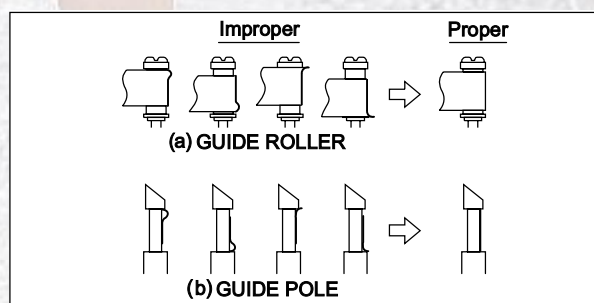
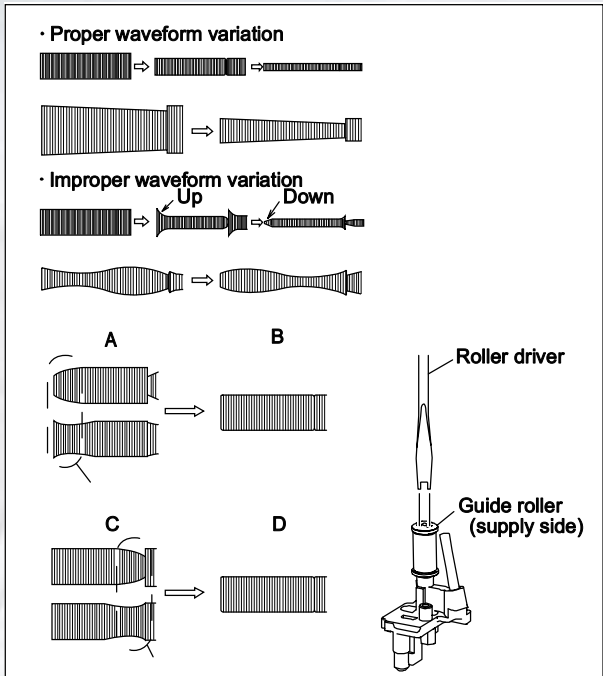

Fig.4-2b
Fig.4-2c
- To prevent damaging the alignment tape in the compatibility adjustment, prepare a cassette tape (for self-recording/playback), perform a test on it by transporting it and making sure that the tape is not bent by the tape transport mechanisms such as in the guide rollers. (See Fig.4-2b.)
- (1) Play back the alignment tape (A1).
- (2) Apply the external trigger signal to D.F.F (E), to observe the V.PB FM waveform at the measuring point (D).
- (3) Set the VCR to the manual tracking mode.
- (4) Make sure that there is no significant level drop of the V.PB FM waveform caused by the tracking operation, with its generally parallel and linear variation ensured. Perform the following adjustments when required. (See Fig. 4-2c.)
- (5) Reduce the V.PB FM waveform by the tracking operation. If a drop in level is found on the left side, turn the guide roller of the pole base assembly (supply side) with the roller driver to make the V.PB FM waveform linear. If a drop in level is on the right side, likewise turn the guide roller of the pole base assembly (take-up side) with the roller driver to make it linear. (See Fig. 4-2c.)
- (6) Make sure that the V.PB FM waveform varies in parallel and linearly with the tracking operation again. When required, perform fine-adjustment of the guide roller of the pole base assembly (supply or take-up side).
- (7) Unload the cassette tape once, play back the alignment tape (A1) again and confirm the V.PB FM waveform.
- (8) After adjustment, confirm that the tape wrinkling does not occur at the roller upper or lower limits. (See Fig. 4-2b.) [Perform adjustment step (9) only for the models equipped with SP mode and EP (or LP) mode.]